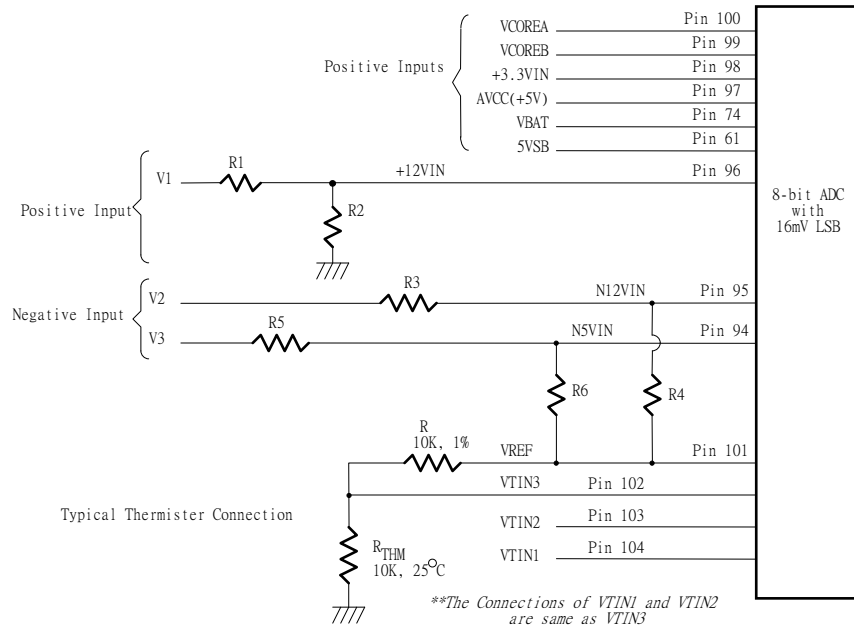

Figure. 8.2
The maximum input voltage of the analog pin is 4.096V because the 8-bit ADC has a 16mV LSB. Really, the application of the PC monitoring would most often be connected to power suppliers. The CPU V-core voltage, +3.3V, battery and 5VSB voltage can directly connected to these analog inputs. The +12V, -12V and -5V voltage inputs should be reduced a factor with external resistors so as to obtain the input range. As Figure 8.2 shows.
The negative voltage should be connected two series resistors and a positive voltage VREF (is equal to 3.6V) . In the Figure 8.2, the voltage V2 and V3 are two negative voltage which they are -12V and -5V respectively. The voltage V2 is connected to two serial resistors then is connected to another terminal VREF which is positive voltage. So as that the voltage node N12VIN can be obtain a posedge voltage if the scales of the two serial resirtors are carefully selected. It is recom-manded from Winbond that the scale of two serial resistors are R3=232K ohm and R4=56K ohm. The input voltage of node N12VIN can be calculated by following equation.
The W83627HG can connect three thermistors to measure three different envirmet temperature. The specification of thermistor should be considered to (1)  $\beta$  value is 3435K, (2) resistor value is 10K ohms at 25°C. In the Figure 8.2, the themistor is connected by a serial resistor with 10K Ohms, then connect to VREF (Pin 101) .